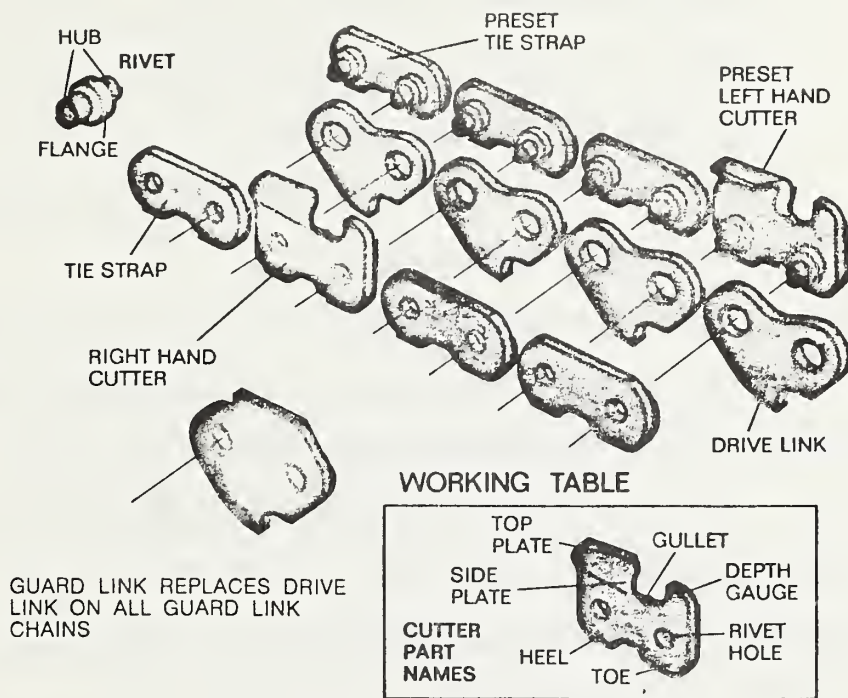

FIGURE 2
A. SAW CHAIN. SAW CHAIN IS MADE OF METAL PARTS RIVETED TOGETHER TO FORM A FLEXIBLE LOOP (FIGURE 2).